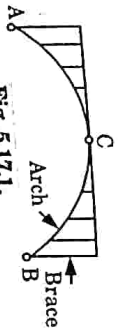

Fig. 5.17.1.
- A three hinged spandrel braced arch is shown in the Fig. 5.17.1.